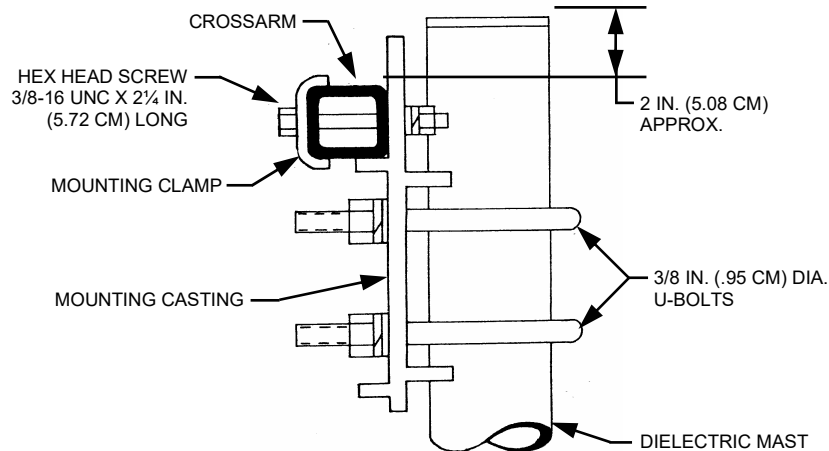

FIGURE 4
- Assemble the mounting casting to the dipole-fitting side of the crossarm as shown in Figure 4, using the mounting clamp and the 3/8-16 x 2 1/4" long hex head screws.